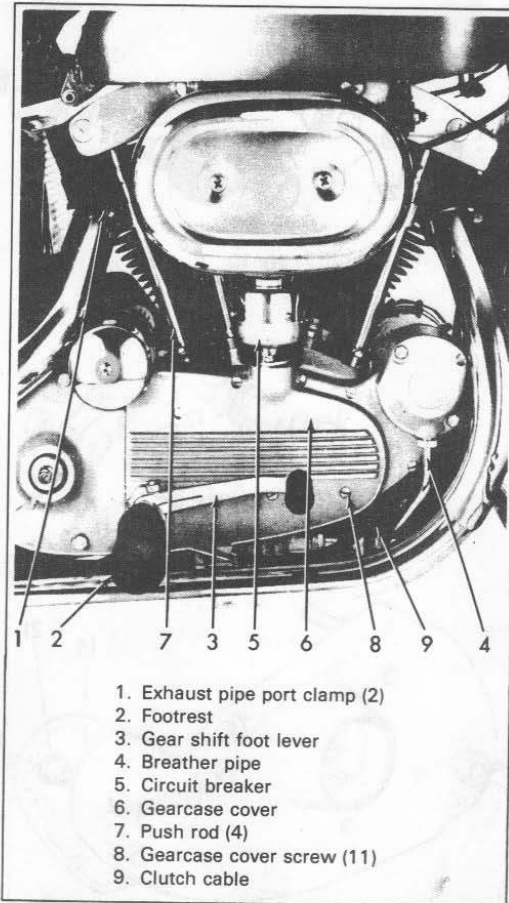
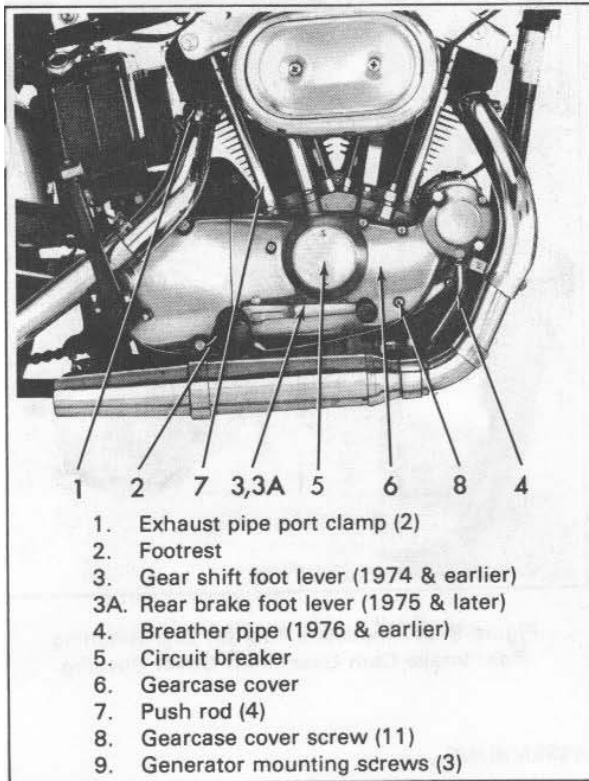

Figure 3-32. Removing Gearcase Cover (1970)
Figure 3-33. Removing Gearcase Cover (1971 and Later)
DISASSEMBLING (Figure 3-32 and Figure 3-33)
7. Refer to Figure 3-32. Assemble breather pipe (4), gear shift foot lever (3), footrest (2), exhaust pipe port clamps (1) and muffler clamps.